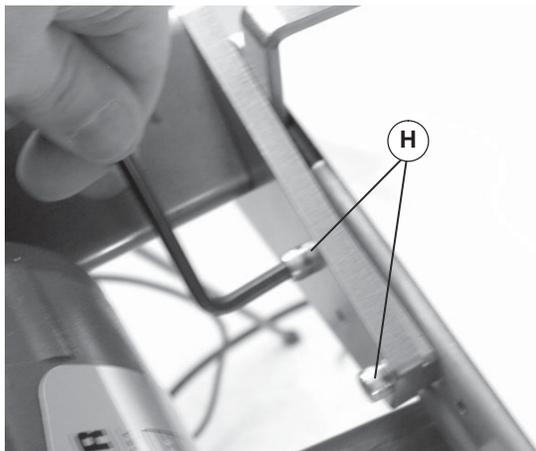

Figure 13
6. Tighten the mounting screws (Figure 13, item H) to 146 in-lbs (16.4 N-m)